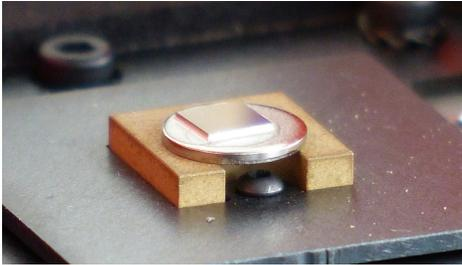

Figure 3-8: Sample mounted on a steel disc and placed on the NaioAFM sample stage.
- 4 Put the sample on the sticky side of the Post-it[®] note, and press on it lightly. The result should resemble *Figure 3-8: Sample mounted on a steel disc and placed on the NaioAFM sample stage*.